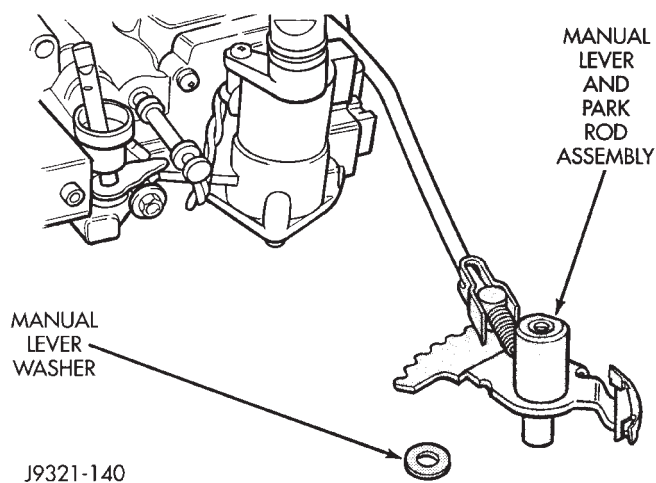

Fig. 95 Manual Lever Removal—46RH
- (7) Remove washer at top of manual lever shaft. Then lift manual lever and park rod assembly upward and out of valve body (Fig. 95).